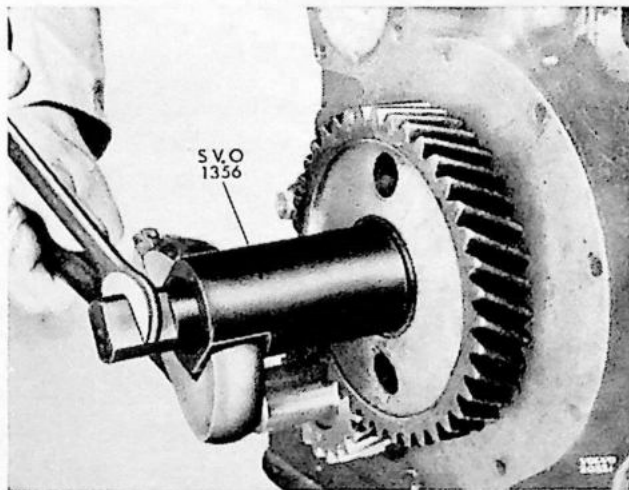
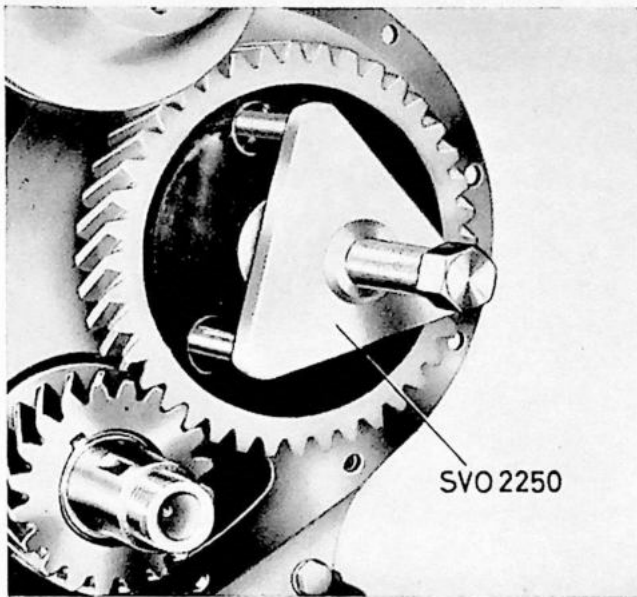

Fig. 37.
Fig. 42.
If only camshaft gear is to be replaced, camshaft need not be taken out. Remove lockwasher and nut and pull off gear with tool SVO 1449 and pilot pin SVO 4130, Fig. 42. For gears now mounted, having three holes, use tool SVO 2250. Mount new gear using tool SVO 1356 or SVO 1356 A, Fig. 37.
10. Check that marking on crankshaft timing gears is correct. Then pull off camshaft gear with tools SVO 1449 and 4130, Fig. 42. For later type of gear with three holes, use tool SVO 2250.